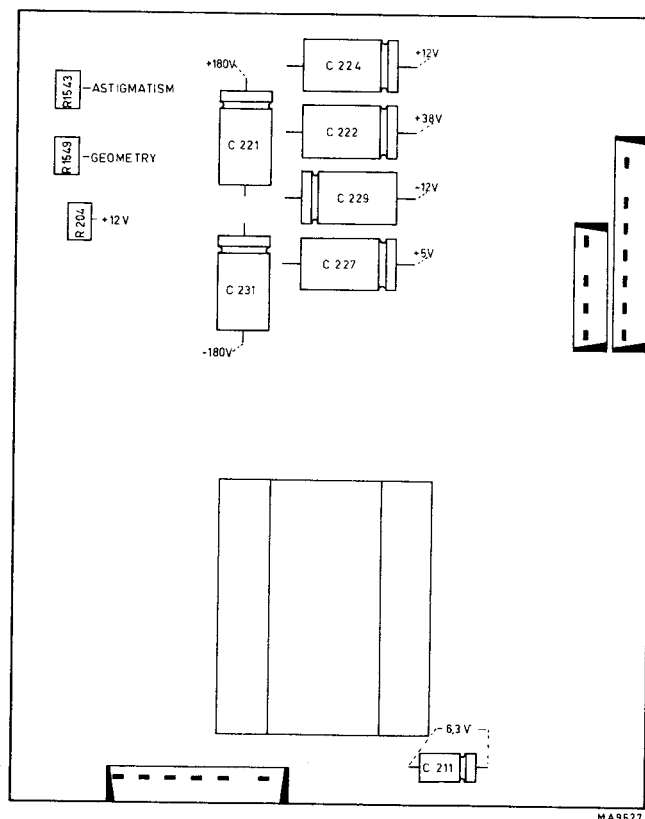

Fig. 3.1. Adjusting and checking the power supply.
- Check that the voltage across capacitor C224 is +12 V, + or -0,25; if necessary readjust potentiometer R204 (Fig. 3.1).
C211 (Fig. 3.1.)	6,3 V, $\pm 0,6$ V
- Adjust FOCUS potentiometer R6 and astigmatism potentiometer R1543 for a sharp and well-defined trace (Fig. 3.1).
- Check that the displayed vertical lines are as straight as possible. If necessary readjust potentiometer R1549 (Fig. 3.1.).